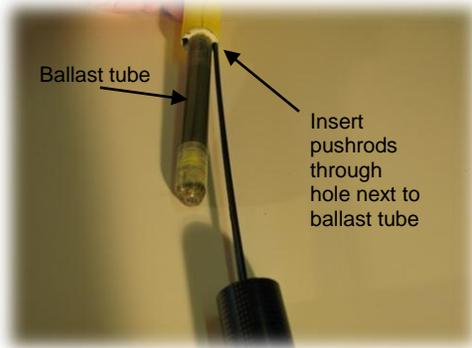

Figure 3: Pushrod placement in Fuselage
- **IMPORTANT:** The pushrods are first inserted through the hole beside the ballast tube on the right side of the end of the fuselage as the boom and fuselage are mated together. See figures 3 & 4 for illustration.